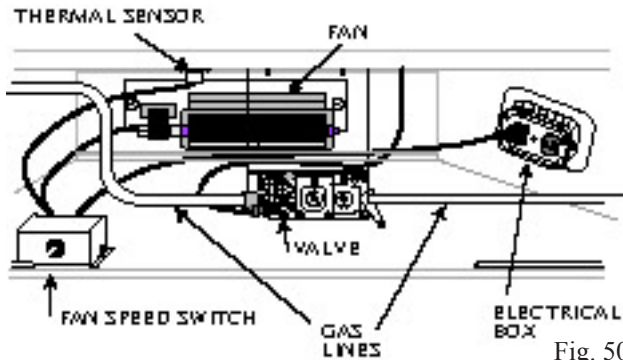

Fig. 50
3. Locate the fan speed control unit. This can be fitted behind the lower louvre assembly as in Fig. 50 or located remotely in a conveniently located wall mounted electrical box. Remote location of the speed control will require suitable extension of the component wiring.